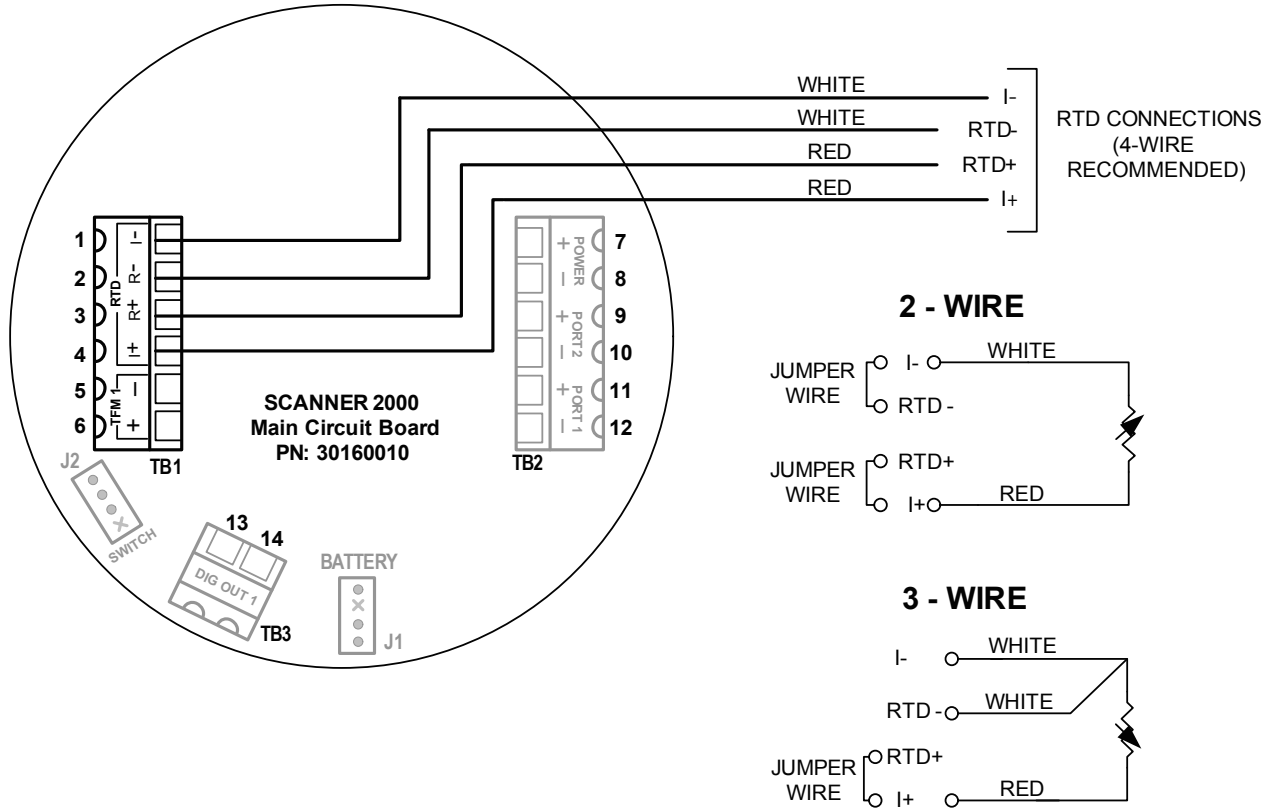

Figure 3.5—Process temperature input wiring
7. Connect the process temperature input wiring to terminal block TB2, if appropriate. See Figure 3.5, page 64.
A 4-wire explosion-proof, 100-ohm platinum 0.00385 OHM/OHM°C RTD rated for Class I, Div. 1, Groups B, C, and D usage is recommended for performing orifice gas and compensated liquid calculations or gas turbine calculations, though a 2- or 3-wire RTD may prove functional. Wire as shown in Figure 3.5.